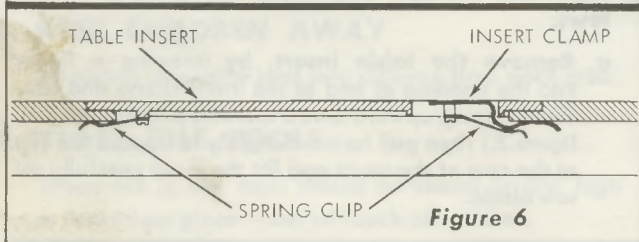
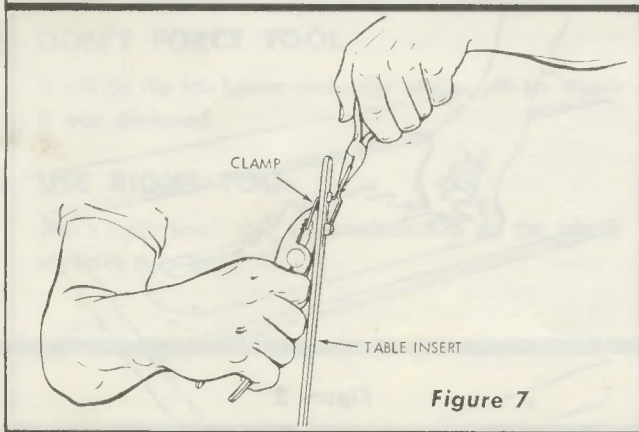

Figure 6
Figure 7
- (5) After adjusting the table insert even (flush) with the saw table, check the insert clamp and spring clip to make sure the insert is held securely in the table opening, and that the insert clamp is below the surface of the insert. (See figure 6.) If the clamp protrudes above the surface, remove the table insert and bend the clamp as shown in figure 7. Bend only a small amount each time and install the insert after each trial to check results. Several trials may be necessary.